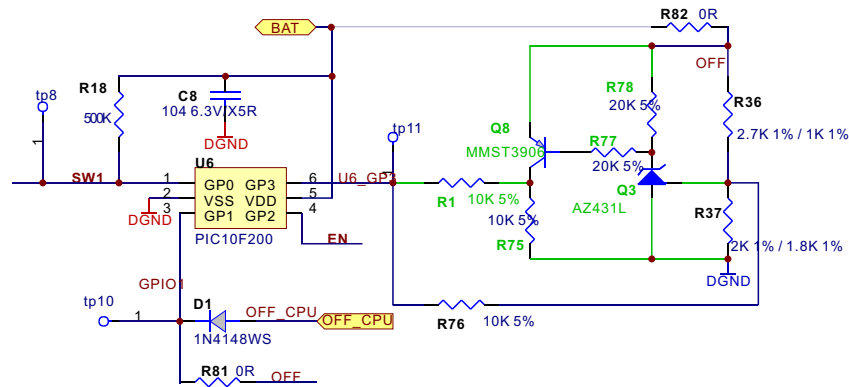

Figure 3.2.10.1 Power on/off control circuit diagram
1. Power on/off control circuit is shown in the figure 3.2.10.1: